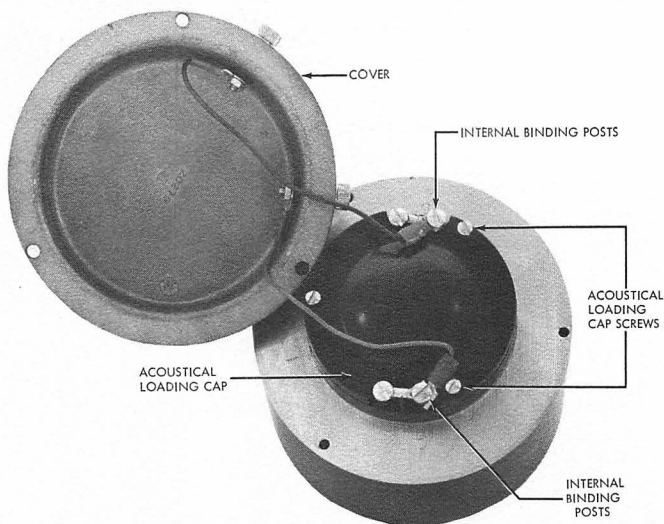

Figure 3. Acoustical Loading Cap Installed
Step 7. Position acoustical loading cap over voice coil and diaphragm, aligning mounting holes (see Figure 3).
Step 9. Connect two leads of driver cover to internal binding posts, orienting lugs as shown in Figure 3. Connect green lead to post L1, and brown lead to opposite post.